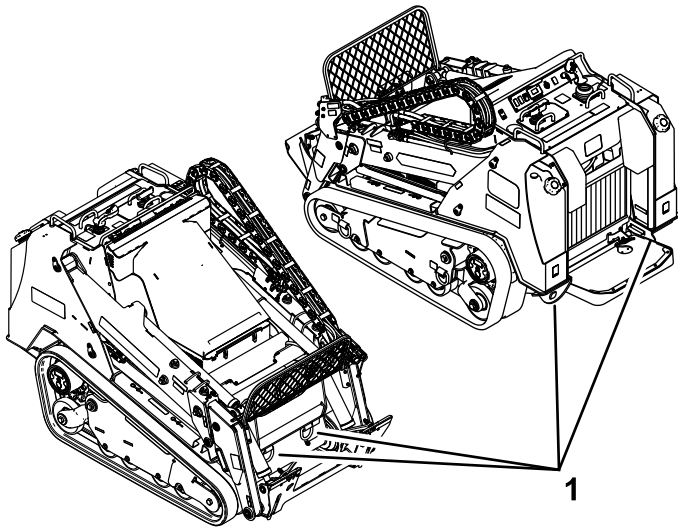

Figure 37
6. Tow the machine as required using the tie-down locations (see Figure 37).
8. Use the metal tie-down loops on the machine to securely fasten the machine to the trailer or truck with straps, chains, cable, or ropes (Figure 37). Refer to local regulations for tie-down requirements.